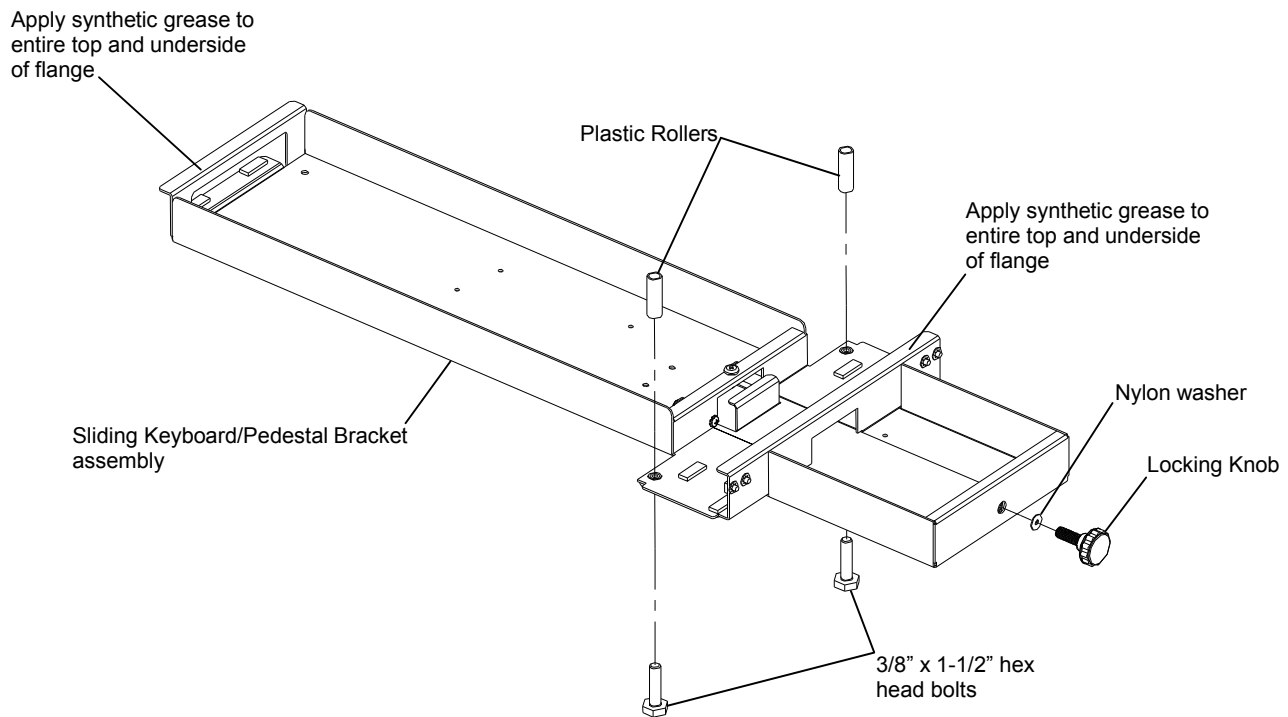

Figure 1.
1. Remove the two $\frac{3}{8}$ " x $1\frac{1}{2}$ " long hex head bolts, two Plastic Rollers, Locking Knob and nylon washer from the Sliding Keyboard/Pedestal Bracket assembly. See figure 1. **Do not discard!**
2. Apply synthetic grease to entire top and underside of the two flanges as shown in figure 1.